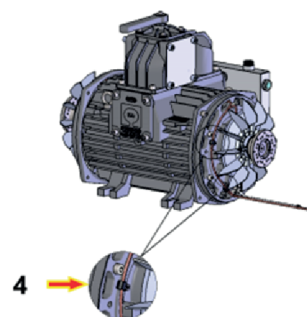

Fig. H.21 - Phase 0060 - part 3
- Remove the hose clamp, unscrew the M6x10 screw (**pos.4 Fig. H.21**) (Allen key 5).